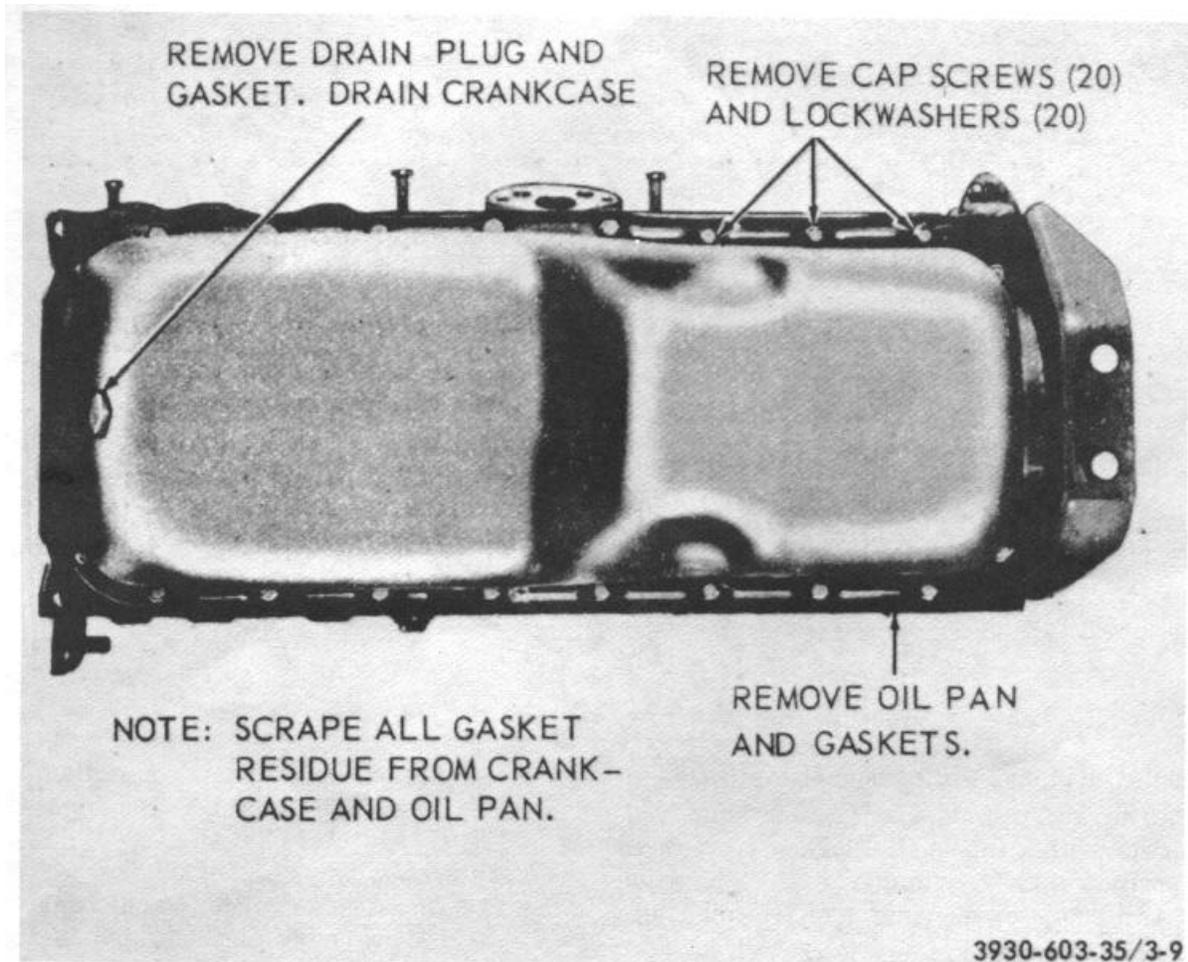

Figure 3-9. Oil pan, removal and installation.
Remove oil pan as illustrated in figure 3-9.
- b. Install oil pan as illustrated in figure 3-9.